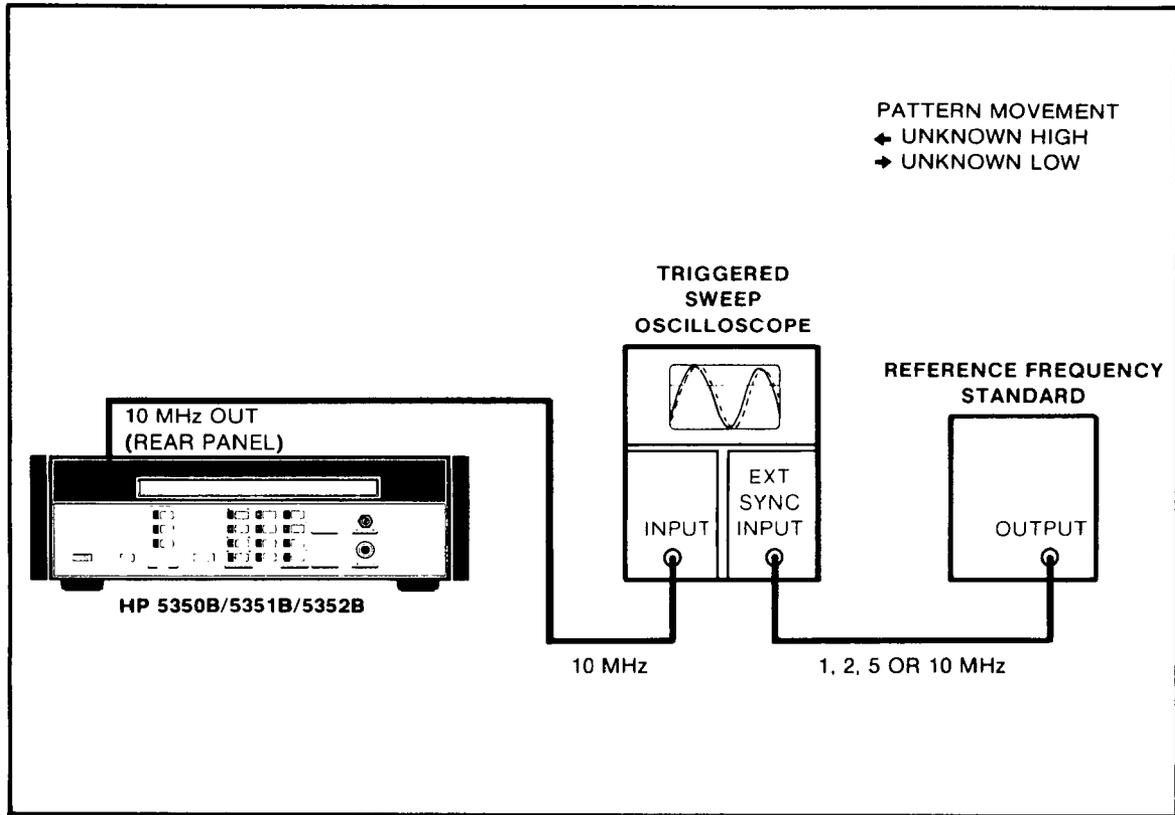

Figure 5-5. Oscillator Adjustment Setup
- a. Connect a house standard (1, 2, 5, or 10 MHz reference frequency) to the EXTERNAL SYNC INPUT of an oscilloscope and set the oscilloscope to EXTERNAL SYNC. Connect the 5350B/51B/52B rear panel 10MHZ OUT to the Channel A input of the oscilloscope. (See *Figure 5-5*.)